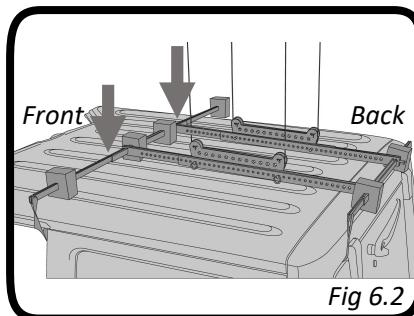

Fig 6.2
2. Adjust width by removing the long pins, repositioning the adjuster arms, and replacing the pins. (*Fig 6.2*) Similarly, set the front to back length to be 4-6 inches longer than the vertical side of the hard top.